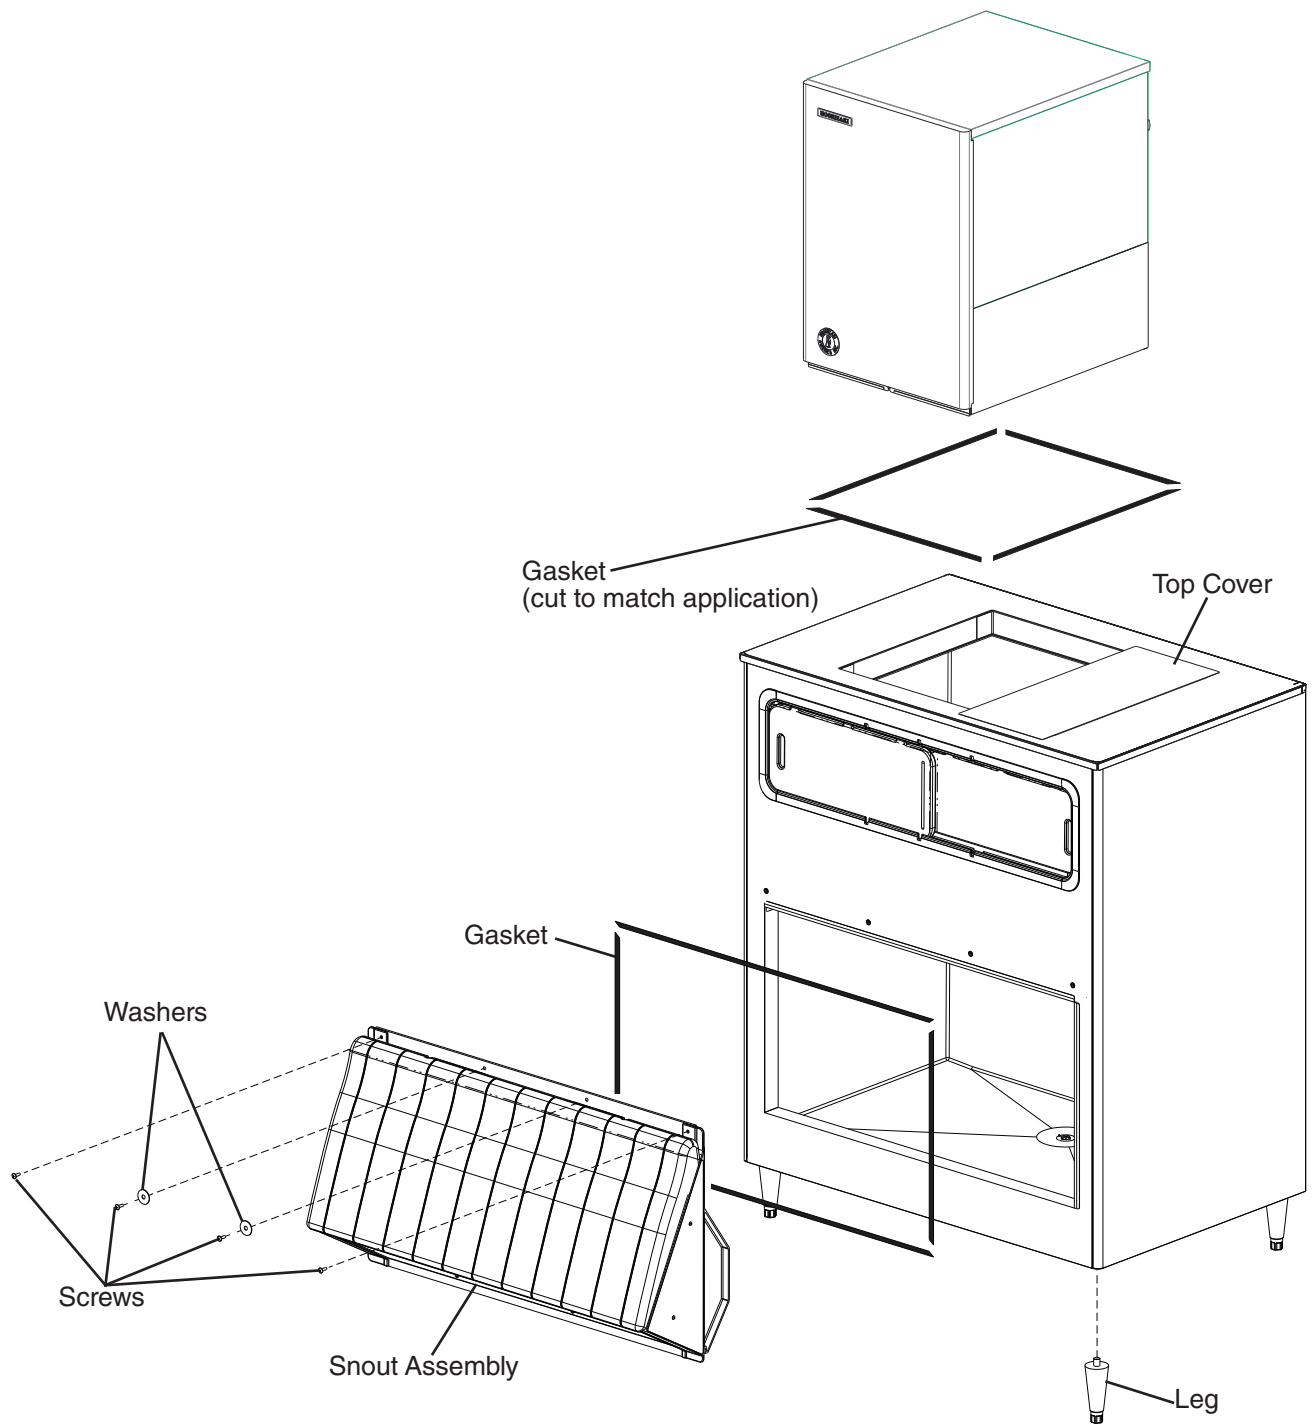

Fig. 1
See Fig. 1
- 10) Use the 4 screws and 2 washers (included) to secure the snout assembly to the ice storage bin. Place the 2 washers in position as shown in Fig. 1.